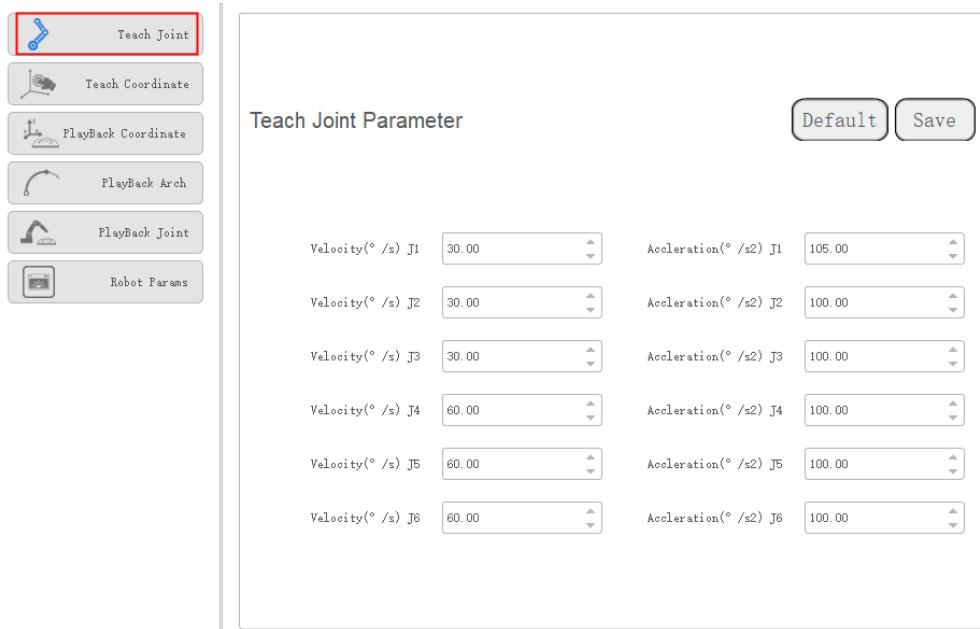

Figure 3.14 Jogging parameters in the Joint coordinate system
- Teach Joint Parameter: Set the maximum velocity and acceleration in the Joint coordinate system when jogging a robot. The jogging parameters of a SR robot in the Joint coordinate system are as shown in Figure 3.14.